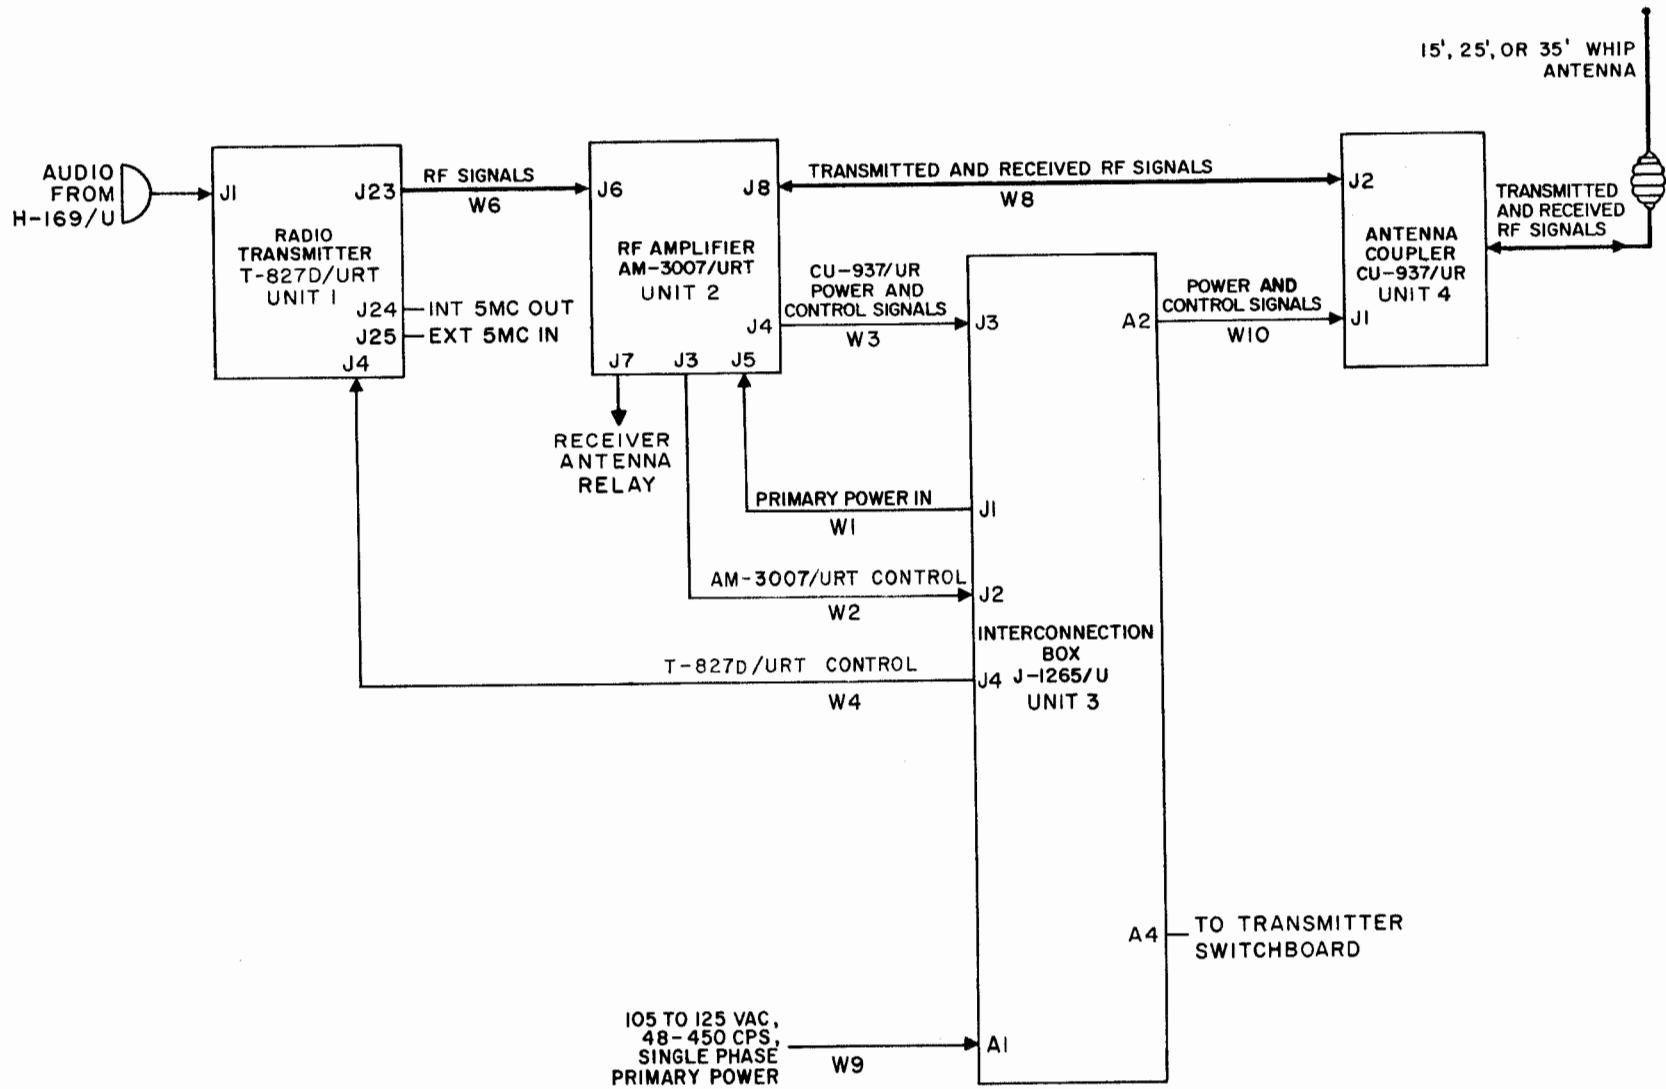

Figure 3-1. Radio Set AN/URT-24, Block Diagram
Radio Set AN/URT-24 is a multi-mode system capable of transmitting on any one of 280,000 channels, spaced in 0.1-kilohertz increments in the 2.0- to 29.999-megahertz frequency range. (See figure 3-1.) Intelligence may be transmitted in continuous wave (CW), compatible amplitude modulation (compatible AM), radio teletype (RATT), upper sideband (USB), lower sideband (LSB), and independent sideband (ISB) modes. The ISB mode permits two different types of intelligence to be transmitted simultaneously. The RATT mode can be obtained using suitable ancillary teletypewriter equipment. Tone-modulated continuous wave (MCW) and facsimile transmissions can also be made with the AN/URT-24.
The maintenance technician has trouble-shooting aids available in the form of an over-all block diagram (figure 3-1), power distribution diagram (figure 5-1), trouble-shooting guide (table 4-3) and detailed cable data (table 4-2). The technician should use these aids in locating the faulty unit.